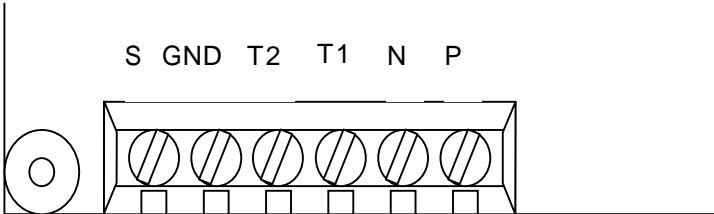

Figure 3. Option card terminal layout
8. Connect the terminating resistor at the end of network (See the figure 3).